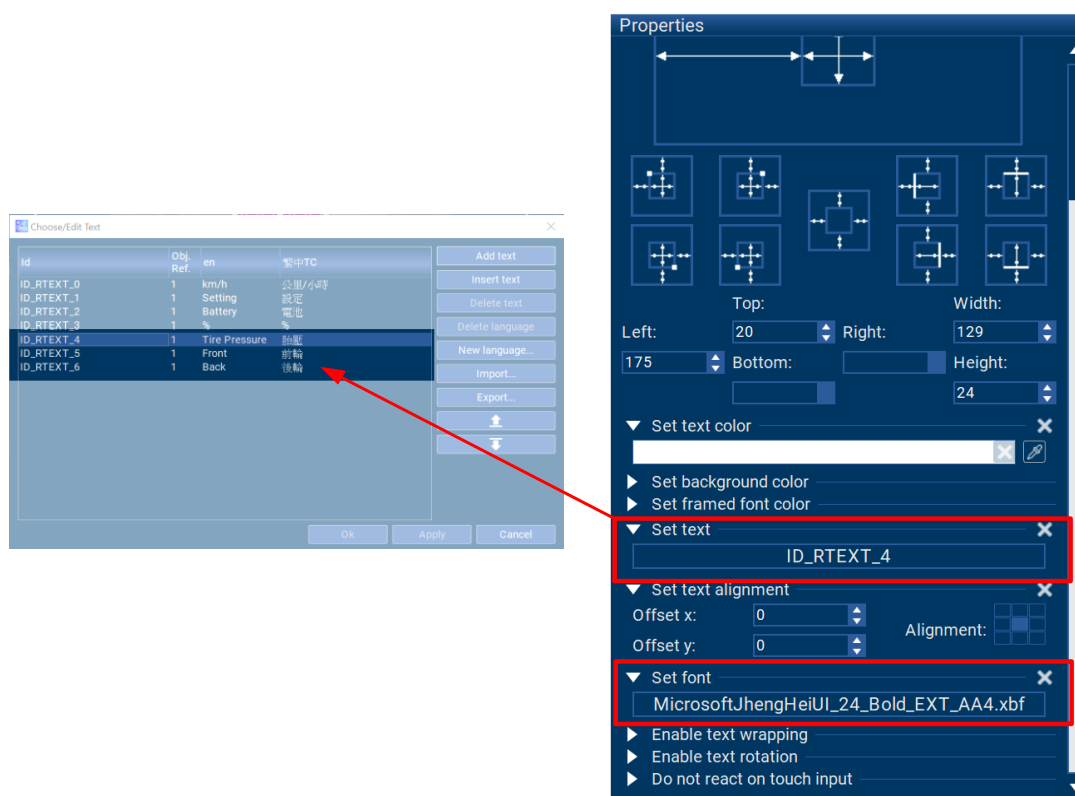
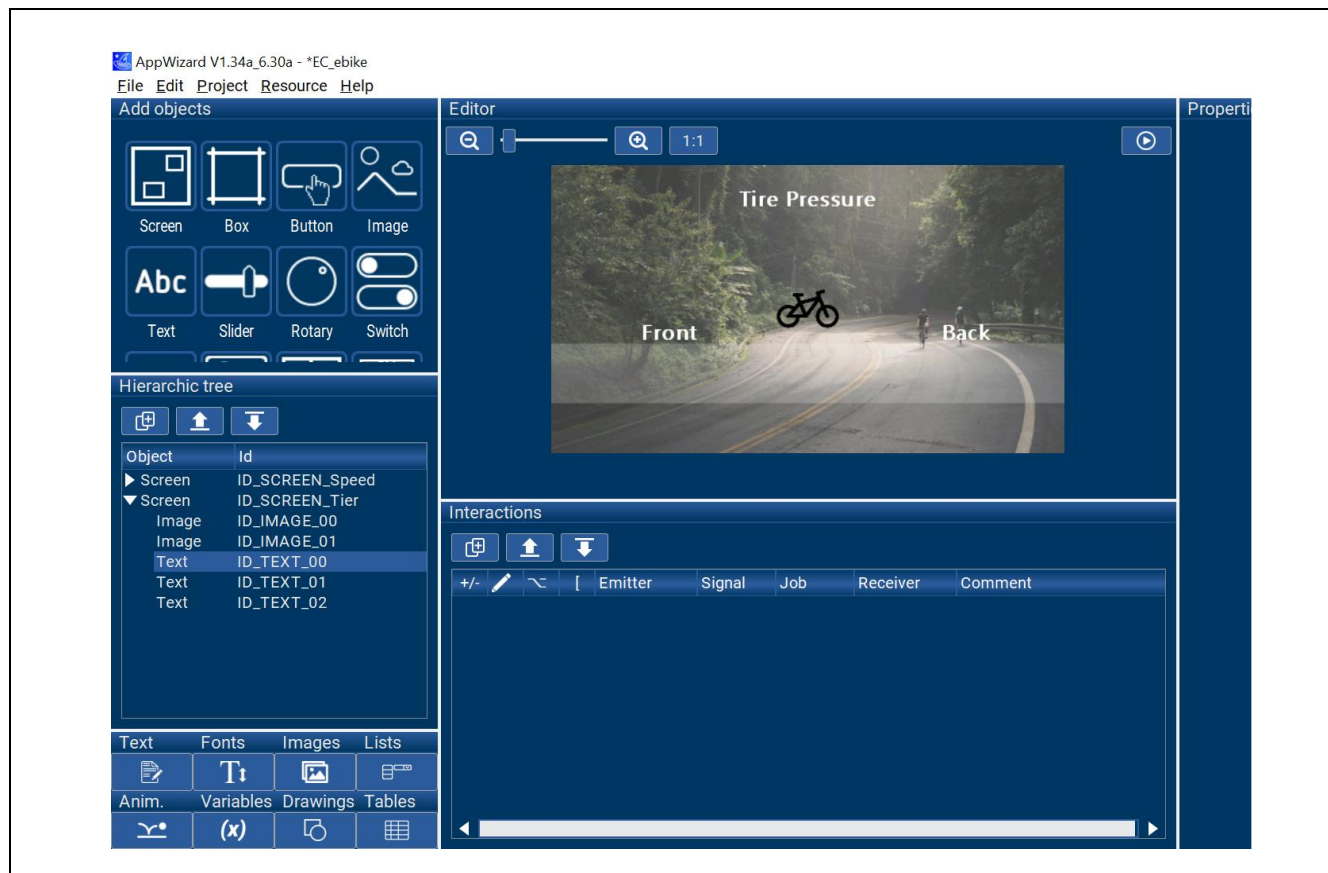

Figure 1-46 Text Object - Properties
Figure 1-47 Using Text Object to Display Tire Name
26. Use Text object to add a title, tire pressure text, and unit. Follow the step 11. The settings for this example can be referenced in Figure 1-46. After completion, the result should be shown as Figure 1-47. The tire pressure unit, such as psi, kPa, bar, etc., can also be displayed on the screen using the same method.